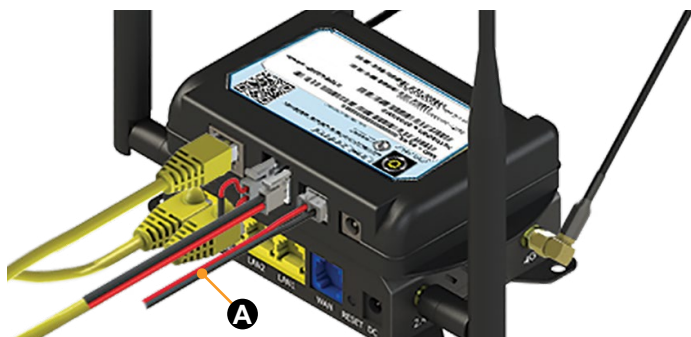

Fig.10
8. Reconnect original CAN bus power harness (Fig.10A), that was previously disconnected (step 3 in the Removal of OneControl Wi-Fi Gateway section) to the ConnectAnywhere Cellular Gateway (Fig.10).